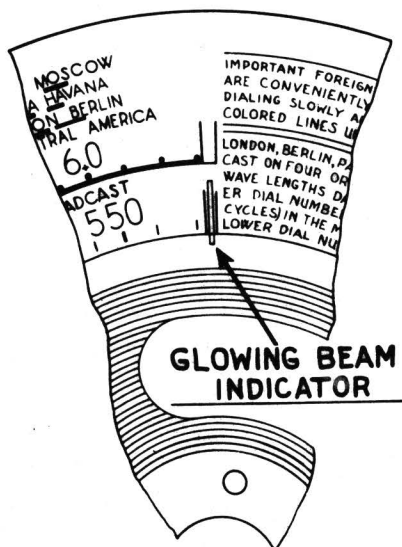
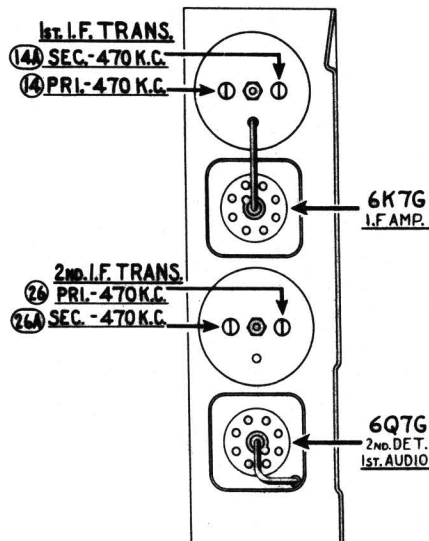

Fig. 2—Dial Calibration
Fig. 3—Locations of I. F. Compensators Top of Chassis
Fig. 1 shows the Voltage measurements taken from the bottom of the socket at each contact. In Fig. 2, the correct position of the dial indicator, for proper adjustment of the compensators is shown. Figs. 3 and 4 show the location of the I. F. and R. F. compensators respectively.
Philco Fibre Wrench No. 3164 and Fibre Handle Screw-driver No. 27-7059 complete the necessary equipment for these adjustments. The locations of the various compensators are shown in Figs. 3 and 4.
**DIAL ADJUSTMENT**—The Tuning Condenser is set at the maximum capacity position, by turning the tuning knob counter-clockwise. Loosen the set screw of dial hub and set dial, (see Fig. 2) with Glowing Indicator centered between the index lines at the low frequency end of scale.